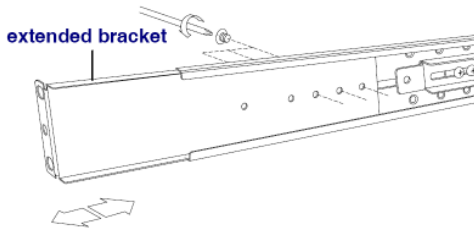

Figure 13 Inserting and tightening the medium/long bracket
4. Tighten at least 2~3 screws along the length you need. **Note!** For medium bracket use the round screws , and for the long bracket use the flat screws . See Figure 13.